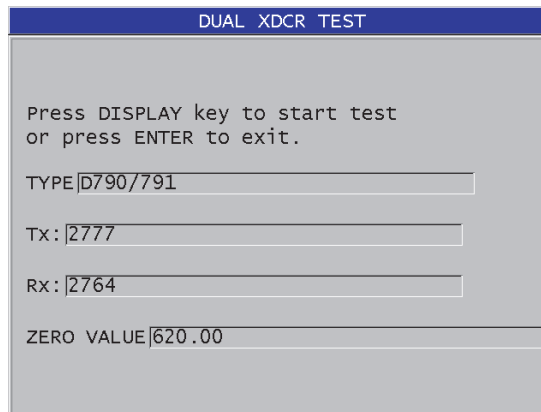

Figure 15-3 The **DUAL XDCR TEST** screen
7. When **DUAL XDCR TEST** is selected, in the **DUAL XDCR TEST** screen (see Figure 15-3 on page 289):